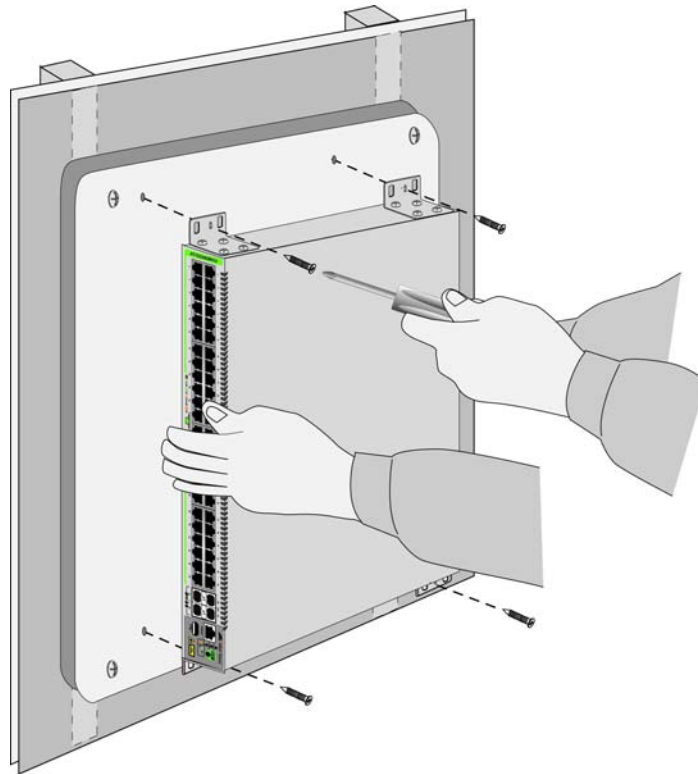

Figure 27. Securing the Switch to the Plywood Base
3. Have another person hold the switch on the plywood base on the wall while you secure it with the four M4x32.3mm screws included with the switch. Refer to Figure 27.